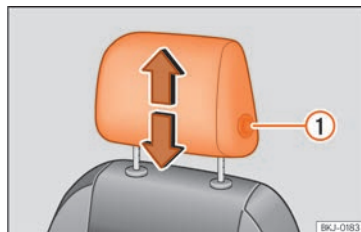

Fig. 120 Front seat: headrest adjustment.
- Move the headrest up or down in the direction of the corresponding arrow. Regarding the rear headrest, to both raise and lower, press the button » **Fig. 120 ①**; for the rear headrests it is only necessary to press the
- Press the side button » **Fig. 120 ①** and remove the headrest.